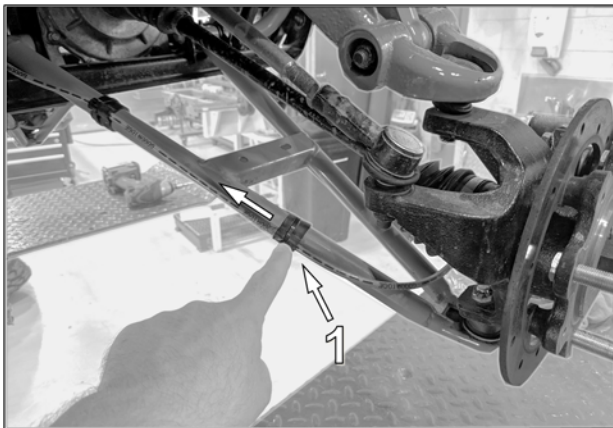

Fig. 15
5. You may have to slide the brake hose clamp (1) up a bit on the suspension arm to facilitate installation of front bracket. See Fig. 15